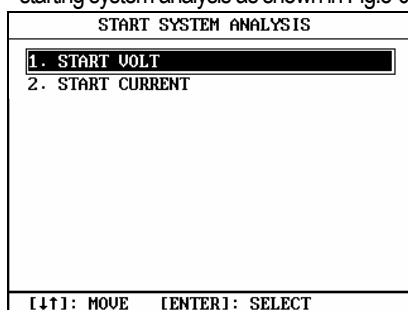

Fig.5-01
- Click [4] to select [4. Starting system analysis], the screen will display the function menu of starting system analysis as shown in Fig.5-01.